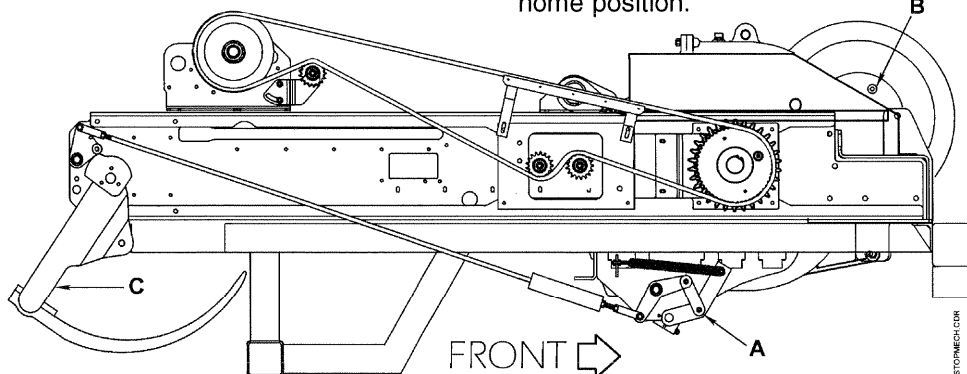
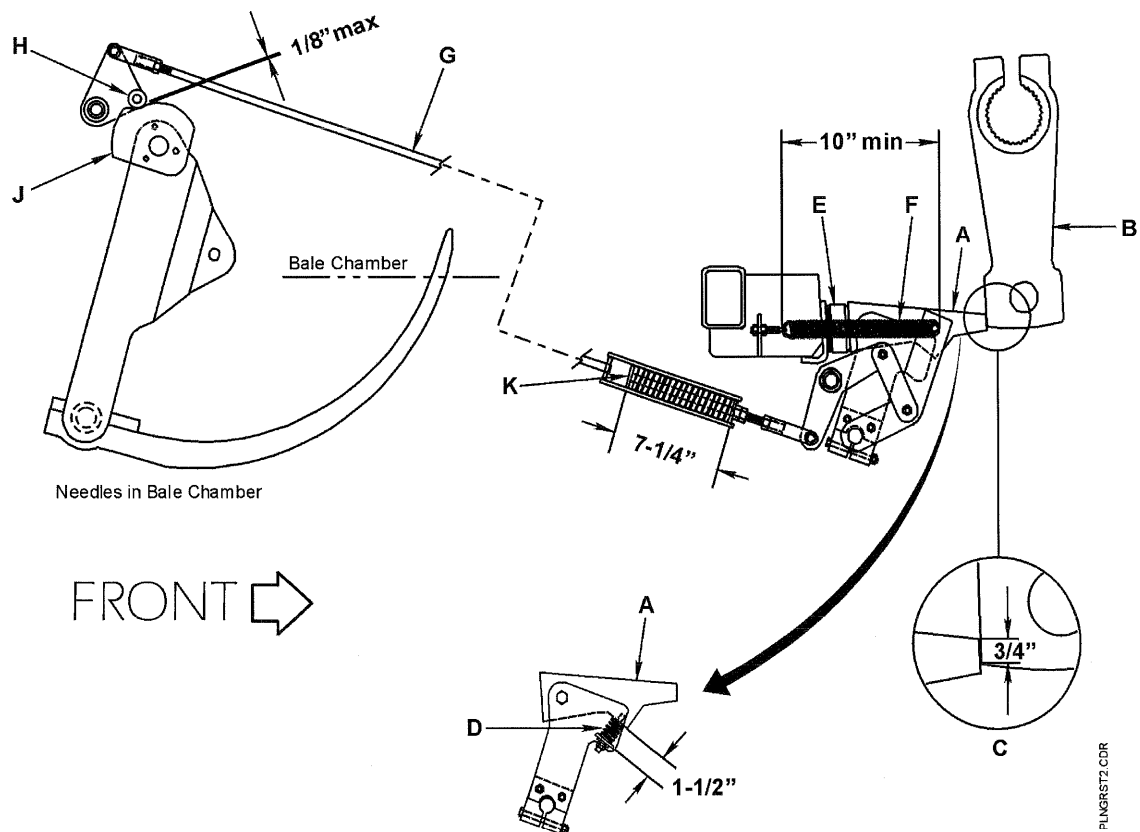

Fig.27
Fig.28
The plunger stop mechanism "A" *Fig.27*, helps protect the needles against breakage, caused by improper needle timing. If for any reason the needles lose proper timing while baling, the plunger stop dogs will stop the plunger and the flywheel shear bolt "B" will break.
Before replacing the flywheel shear bolt, always move the stop dogs out of contact with the plunger cranks "B," *Fig.28*. Do this by turning the knotter shaft until the needle yoke "C" *Fig.27*, returns to the home position, (position the needles are normally in when the knotter is at rest).
into the bale chamber by turning the knotter shaft. With the stop dogs resting against the stop bumpers "E," turn the flywheel counterclockwise until the plunger cranks "B" make contact with the tips of the stop dogs "A," with a minimum interference of $\frac{3}{4}$ " "C," *Fig.28*, which is adjusted by the plunger stop dog adjusting springs "D," which is adjusted by the plunger latch springs "F," ensure the plunger latch spring is stretched at least 10".
B. With the stop dogs resting against the stop bumpers "E," ensure there is a $\frac{1}{8}$ " maximum clearance between the roller on the plunger stop cam lever "H" and the plunger stop cam "J," *Fig.28*. Adjustments to the plunger stop rod length should be made equally between the spring end and the cam end clevises. Do not adjust either end clevis to less than $\frac{3}{4}$ " thread engagement. The spring "K" inside the spring housing assembly should be compressed $\frac{3}{4}$ " to a length of approximately 7- $\frac{1}{4}$ " by removing the snap ring retainer, removing the spring and rod assembly, loosening the jam nut and turning the adjusting nut, then retightening the jam nut. Never adjust or attempt to replace the spring while still installed in the spring housing assembly.